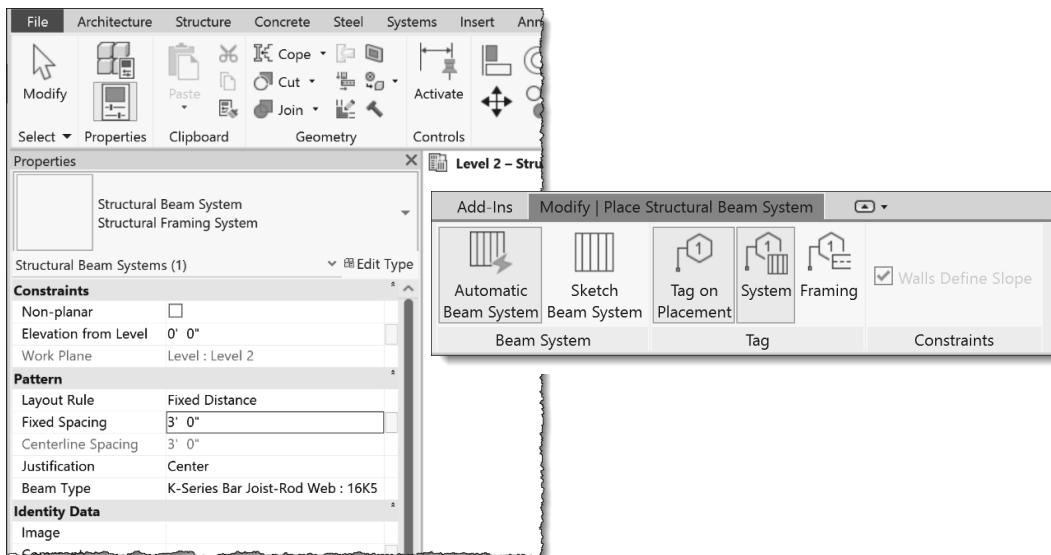

FIGURE 8-4.7 Beam system tool active; related settings
31. Adjust the *Ribbon* and *Properties* to match Figure 8-4.7.